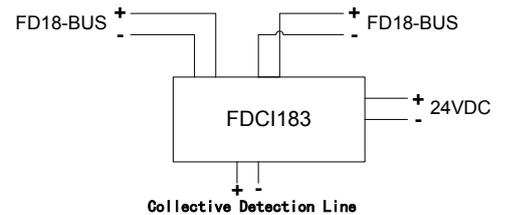
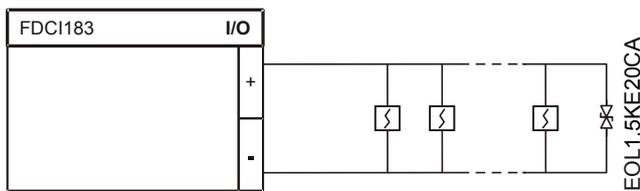
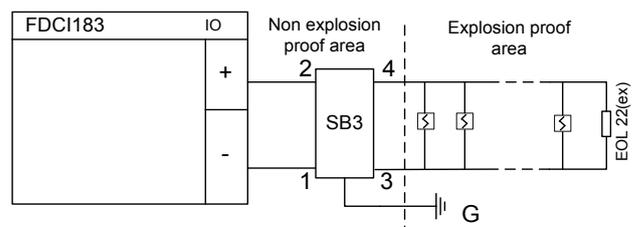

Fig. 7
Fig. 8 Detection line connection
Fig. 9 Detector line with safety barrier (the earth fault monitoring must be switched off)
1. Connect the cables to the terminals according to the connection diagram (Fig. 7, Fig. 8, Fig. 9).
2. Connect the line terminators (EOL). These must be connected to the end of the line (Fig. 8 /Fig. 9).